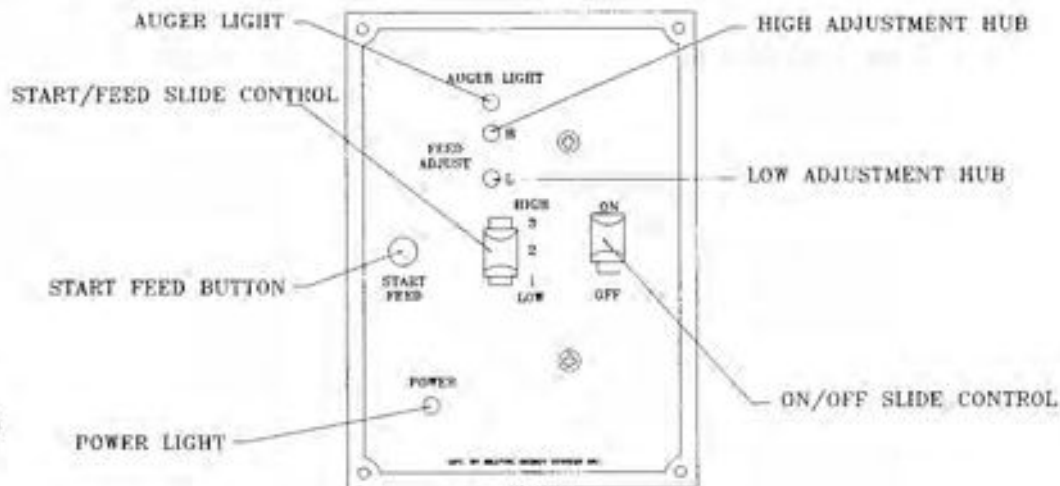

Figure 20
3. Using a stop watch, check the amount of time the light stays off with the switch still on the #1 position. The time should be 11.4 seconds off. If the timing is off by ± 0.2 seconds, reset the timing to the 11.4 setting by turning the "FEED ADJUSTMENT" hub through the hole on the control panel labeled "L" (clockwise rotation will increase timing and counter clockwise will decrease timing). See Figure 20
4. Slide the control knob to the #2 "MEDIUM" position and check the timing. This should run between 7.0 and 7.4 seconds. **NOTE:** The "MEDIUM" will self adjust between "LOW" and "HIGH". See Figure 20
5. Slide the control knob to the #3 "HIGH" position and check the timing. The timing should be set at 5.2 seconds (± 0.2 seconds). If the timing is off by ± 0.2 seconds, reset to the 5.2 setting by turning the "FEED ADJUSTMENT" hub through the hole on the control panel labeled "H" (clockwise rotation will increase timing and counter clockwise will decrease timing). See Figure 20